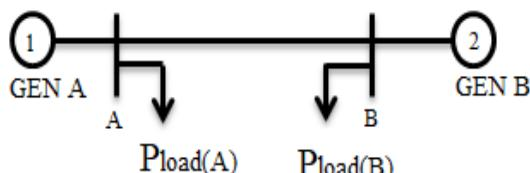

Fig. 8(b)
b) A two-bus system, without generator limits, has been considered which is shown in Fig. 8(b),